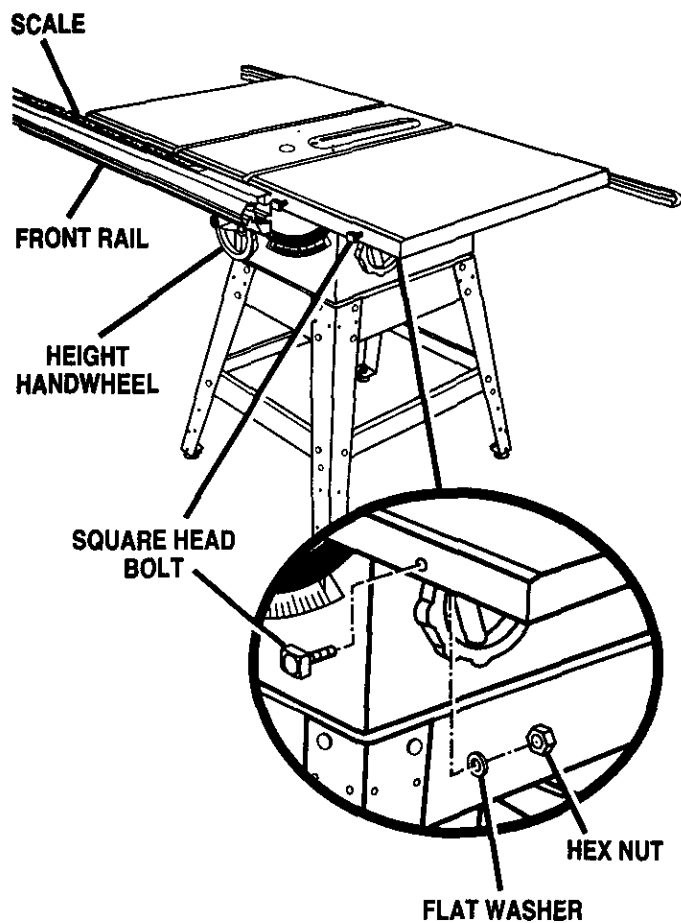

Fig. 15
See Figures 15, 16, and 17.
- Loosely attach a flat washer and a hex nut to each bolt. See Figure 15.
- Slide the rip fence back and forth. It should move freely with about 1/16 in. clearance below the rip fence. If it doesn't, loosen the nuts holding the front rail and adjust the rail up or down. See Figure 15.